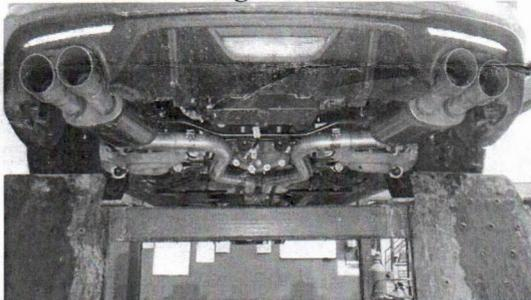

Figure 11
7. Install the **Tips** and tighten just enough to allow for alignment. Refer to **Figure 11**.